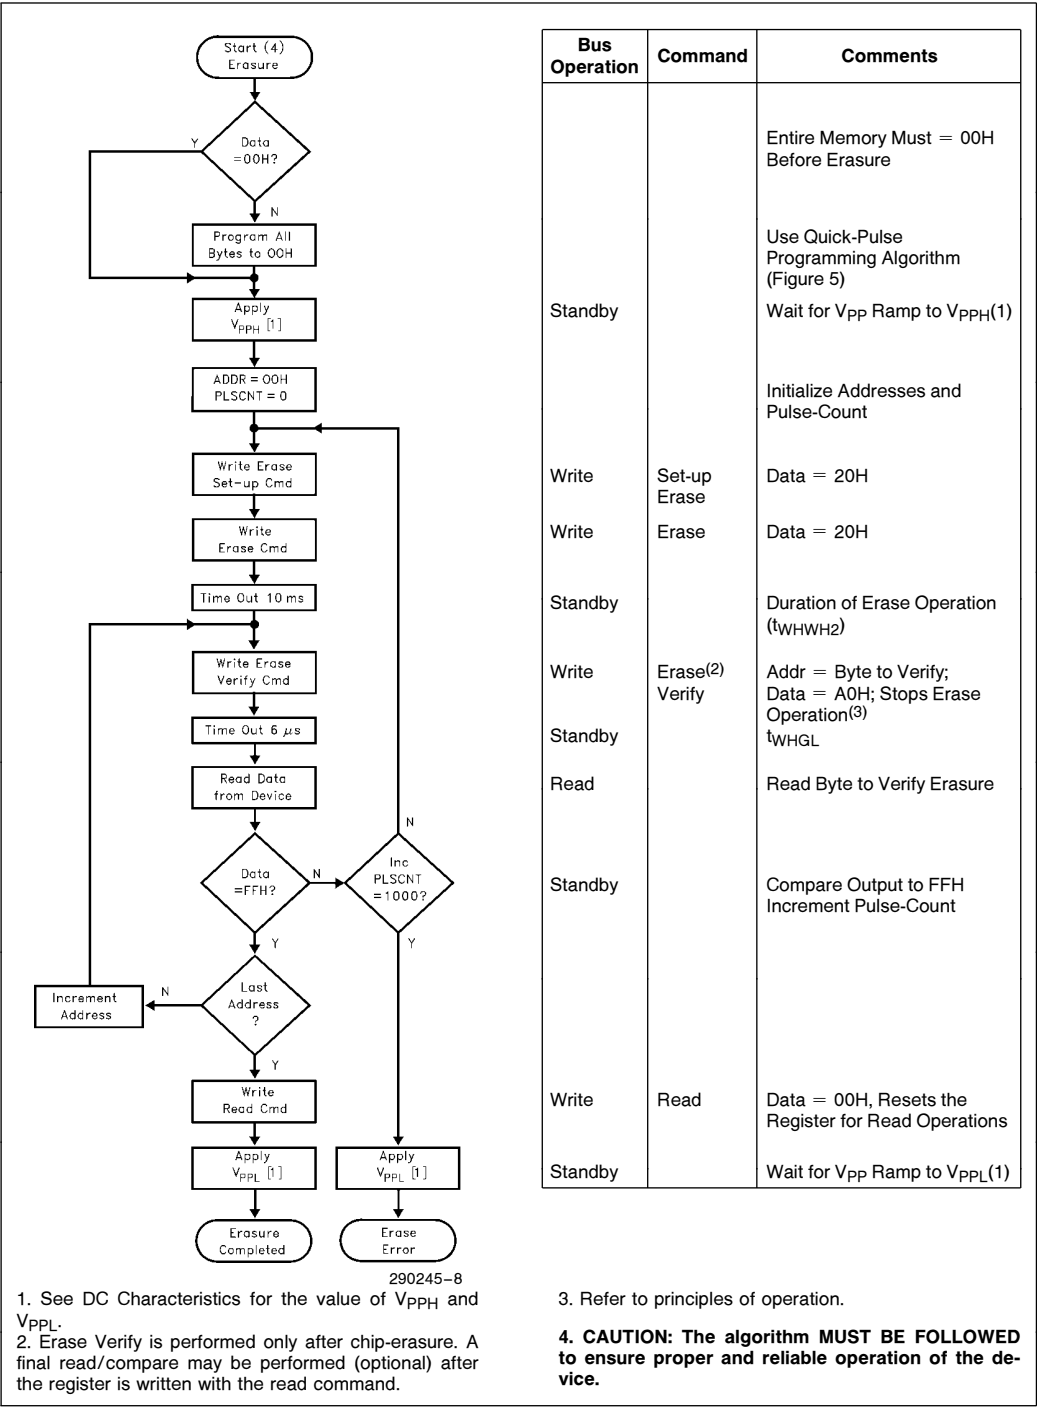

Figure 6. 28F020 Quick-Erase Algorithm
- Figure 6 illustrates the Quick-Erase Algorithm.
In the case where the data read is not FFH, another erase operation is performed. (Refer to Set-up Erase/Erase). Verification then resumes from the address of the last-verified byte. Once all bytes in the array have been verified, the erase step is complete. The device can be programmed. At this point, the verify operation is terminated by writing a valid command (e.g. Program Set-up) to the command register. Figure 6, the Quick-Erase algorithm, illustrates how commands and bus operations are combined to perform electrical erasure of the 28F020. Refer to AC Erase Characteristics and Waveforms for specific timing parameters.
Erase execution then continues with an initial erase operation. Erase verification (data = FFH) begins at address 0000H and continues through the array to the last address, or until data other than FFH is encountered. With each erase operation, an increasing number of bytes verify to the erased state. Erase efficiency may be improved by storing the address of the last byte verified in a register. Following the next erase operation, verification starts at that stored address location. Erasure typically occurs in two seconds. Figure 6 illustrates the Quick-Erase algorithm.